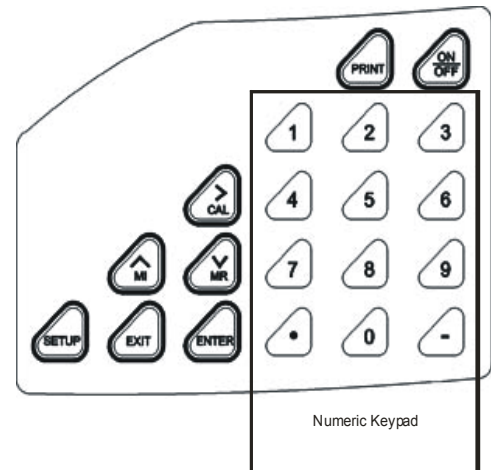

Figure 21
2. Using the numeric keypad (See **Figure 21**), enter the value of the first custom pH buffer. If you make a mistake, use the **Δ/MI** or **∇/MR** to highlight mistake, then retype.